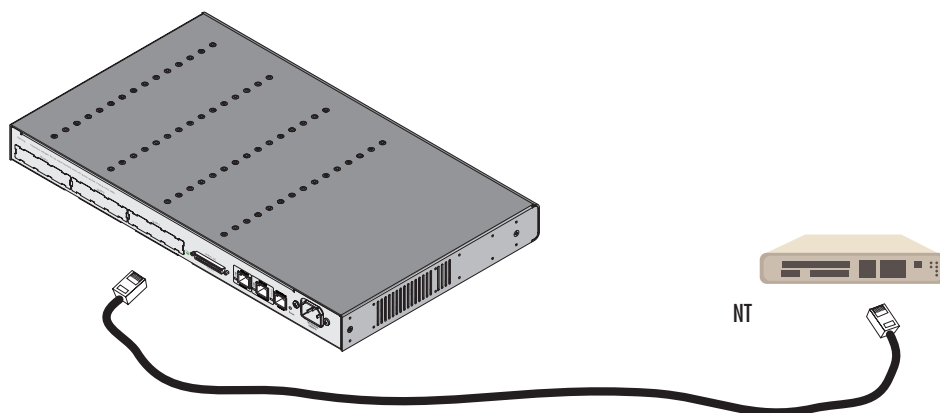
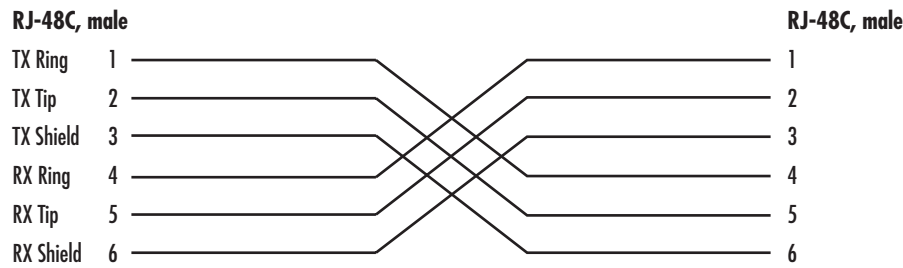

Figure 64. Connecting an T1 PRI port to an NT
Figure 65. T1 crossover cable
The PRI is usually connected to a PBX or telco switch—local exchange (LE). The type and pin outs of these devices vary depending on the manufacturer. In most cases, a straight-through RJ-45 to RJ-45 can be used to connect the PRI (see table 33 for IC-T1V card port pin-out listing) with a PBX (an NT). (See figure 64). A cross-over cable is required to connect to an LE, as illustrated in figure 65.